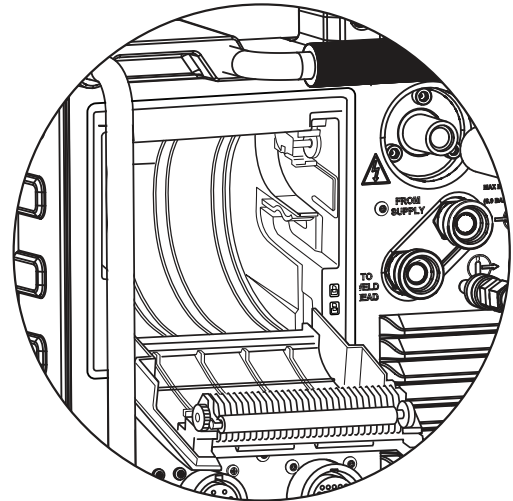

Fig. 51—Remove Paper Roll
2. Remove the old paper roll (Fig. 51).